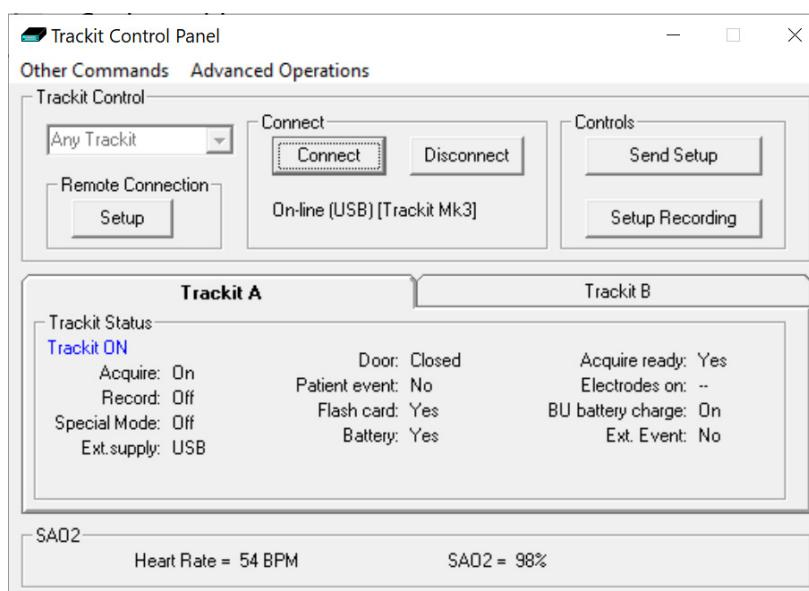

Figure 22: Display of SaO₂
- 6 Observe the display of SaO₂ and pulse rate on the Trackit Control Panel. Probe off, and XPOD disconnect information is displayed. See Figure 22.